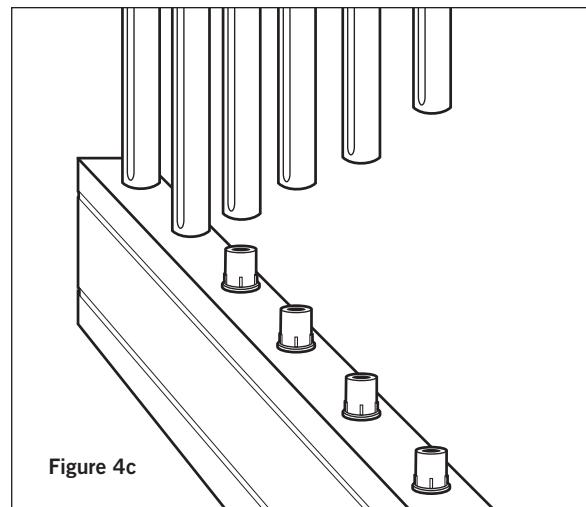

Figure 4c
**Classic, Colonial and Estate balusters:** Attach balusters to the lower rail by sliding onto connectors (**Figure 4c**).